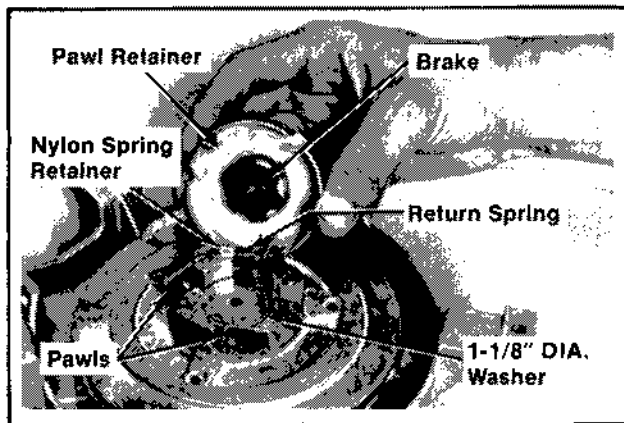

Figure 7-20. Installing Pawls, Pawl Retainer, And Related Components.
- Install the starter pawls into the appropriate pockets in the pulley. Refer to Figure 7-20.